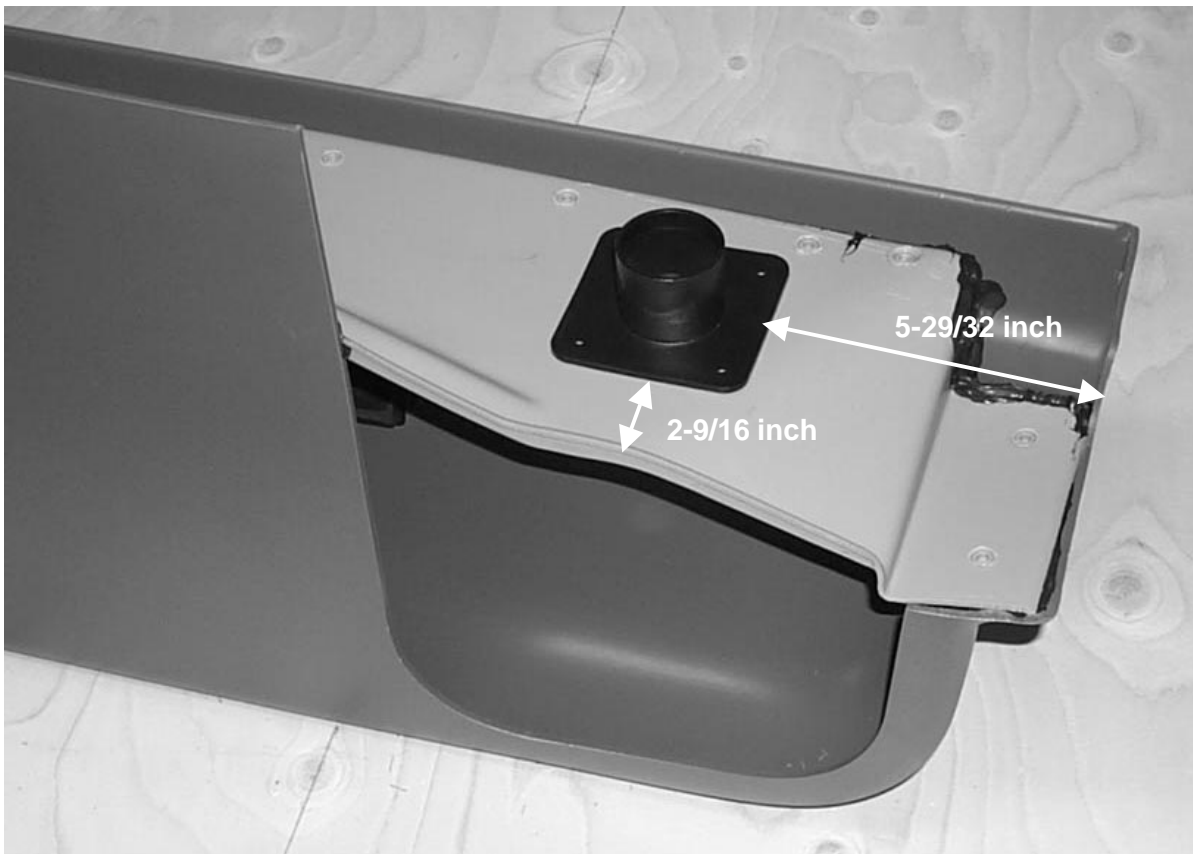

Figure 19: Location of transition duct on rear molding duct
- 8) Install the T-shaped transition duct referring to the dimensions in Figure 19. Start by drilling a 1-5/8 inch hole in the molding duct. Center the hole in the transition duct with the hole in the molding. Secure with Sikaflex 221 or a similar adhesive, rivets at the four corners, and back-up washers.